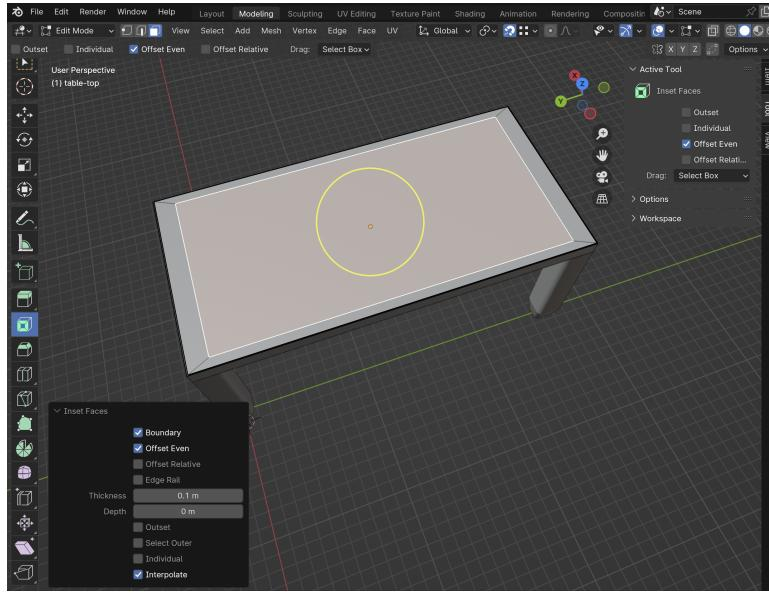

Figure 1.10: Insetting the table top.
15. Use *Inset* tool from the left *Toolbox* to divide this face into smaller triangles and create a rectangular area (see Fig. 1.10).